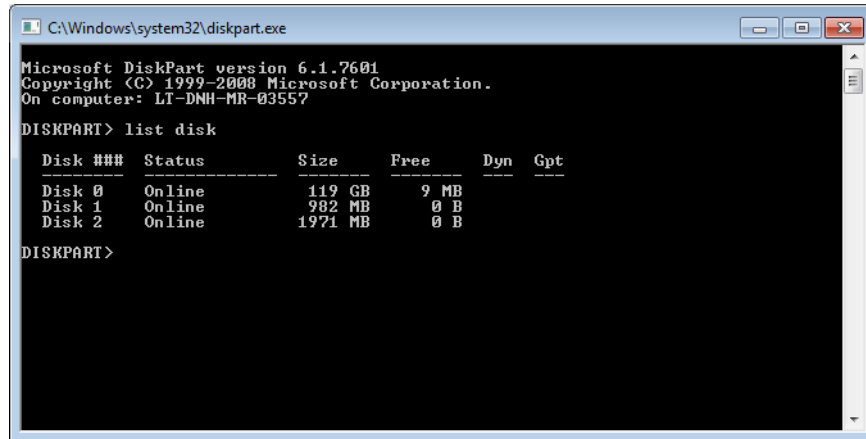

Figure 100 DiskPart List Disks Example
5. At the Diskpart> prompt type "list disk" followed by the **Return** key to display the disks available on the PC. For an example see Figure 100
In the example shown in Figure 100 Disk 2 is a 2 Gb USB memory stick.